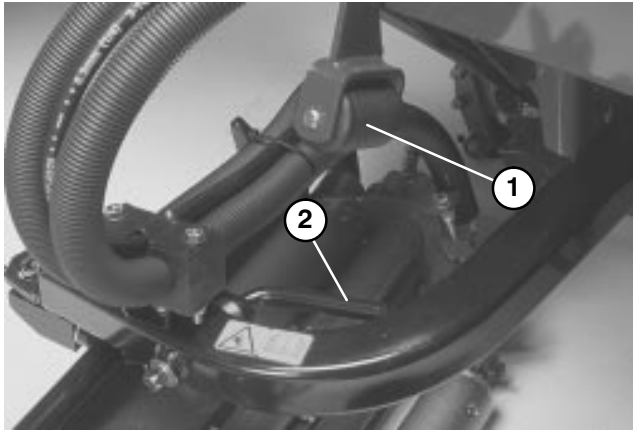

Figure 12
12. Check adjustment of lock-up rollers (Fig. 12). When properly adjusted, they will contact the lock-up levers on rear lift arms and support the cutting units when fully raised. The cutting units should have approximately 3/8" – 5/8" vertical travel measured at the rear roller.